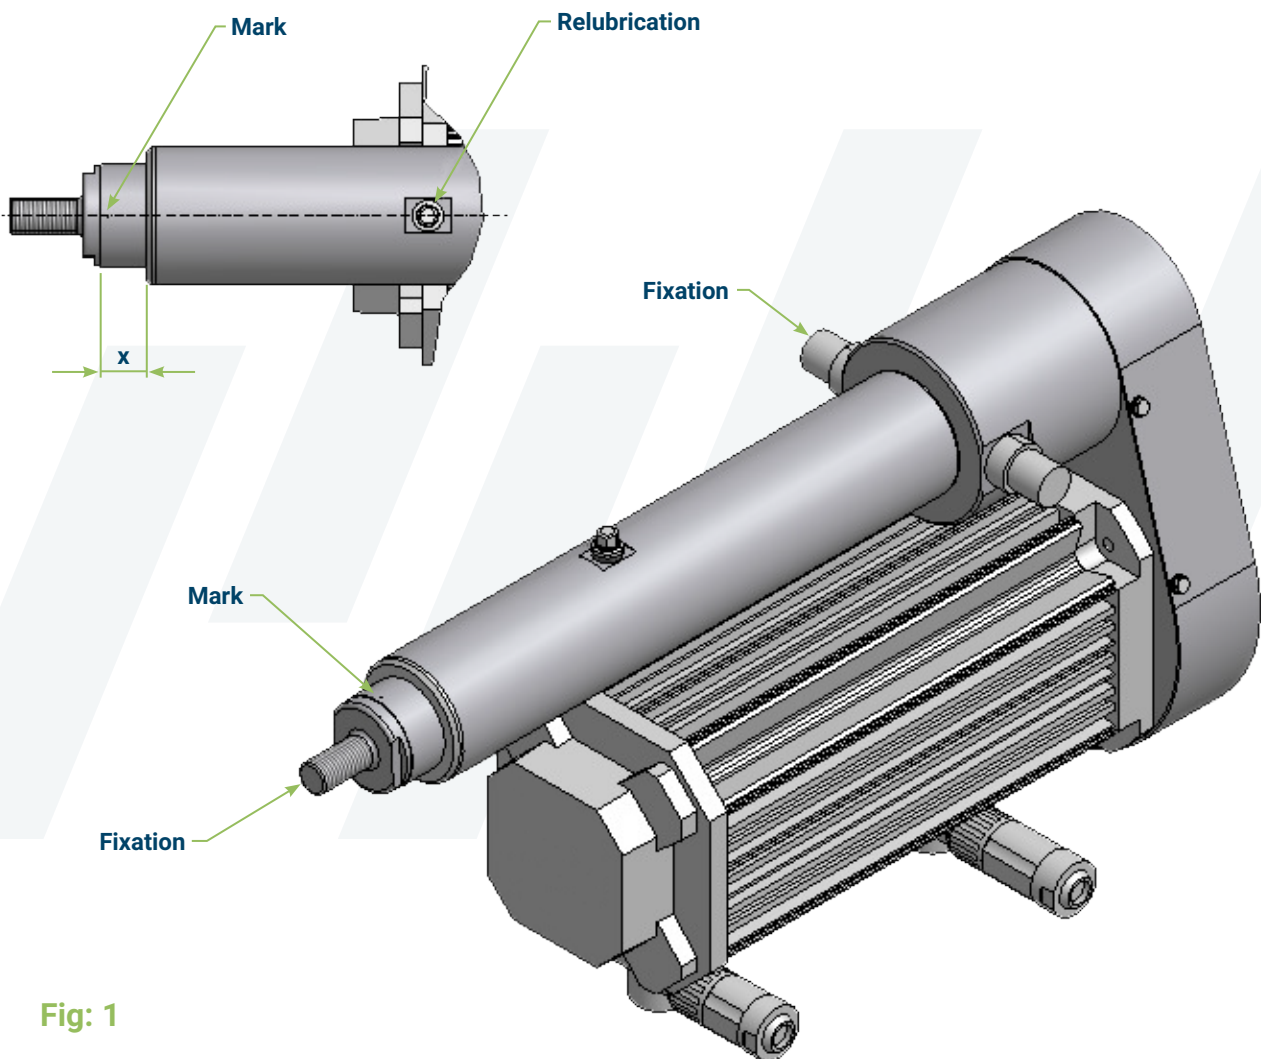

Fig: 1
- Design of the actuator does not allow it to run against mechanical end stops, not even its own end limits. To find the end limits, line up the end of the inner tube with the black bushing of the outer tube until $X=0$ (see fig. 1). In this position there is still 2 mm to the end limit. To find the opposite end limit, position the actuator until X equals the nominal stroke. In this position there is still 5 mm until the end limit.
- To be able to relubricate without dismounting actuator, it is important that the mark on the inner tube is line up with the regrease hole of the outer tube (fig. 1) when mounted.